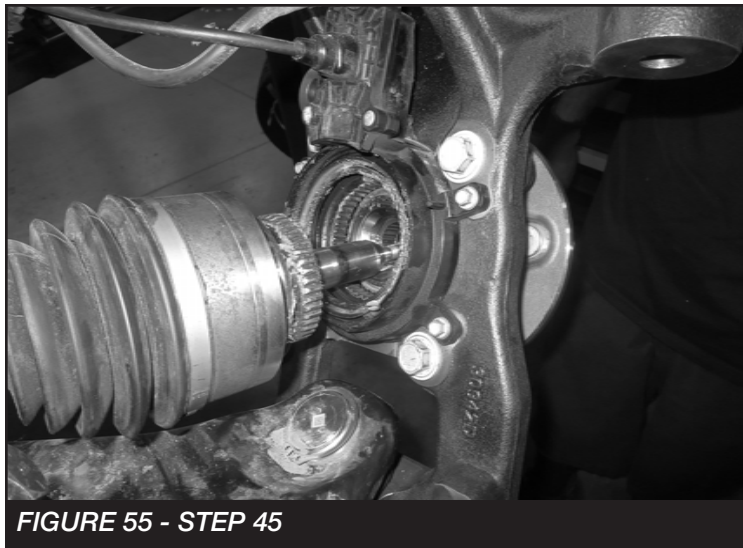

FIGURE 55 - STEP 45
56. Locate the factory brake line mount on the driver side of the frame. Locate the supplied brake line bracket (FT70033) and attach the bracket between the factory frame mount and the factory brake line using the factory and supplied 5/16" hardware using the inside holes. **SEE FIGURE 55**